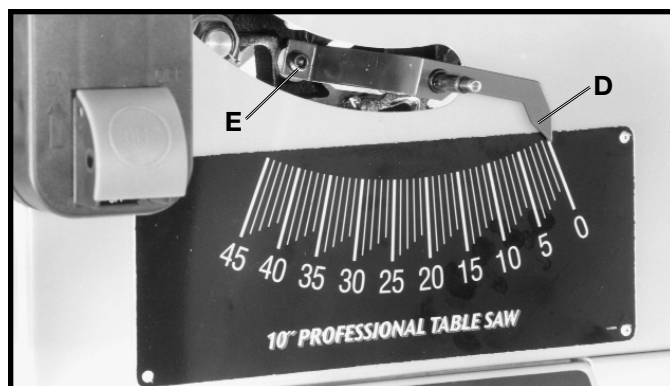

Fig. 46
6. Adjust the pointer (D) Fig. 46, to point to the zero degree mark on the scale by loosening screw (E), adjusting pointer (D), and tightening screw (E).